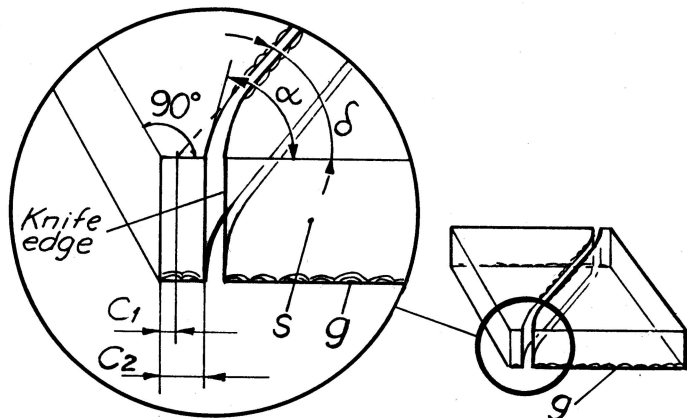

Fig. 2
If the edges become misshaped, it is recommended to reduce the scoring pressure and/or  $c_2$ , see fig. 2.
<ul style="list-style-type: none"> <li>e) At 35° knives: Distance (c2), see fig. 2, is too large.</li> <li>f) Scoring pressure is too high.</li> <li>g) Top of damping pad is protruding too much above its holder.</li> </ul>	<ul style="list-style-type: none"> <li>d) Check width of glass (min. 24.8 mm). If in order, set front glass holder (22) half a division lower e.g., from 10.5 to 10.</li> <li>e) Reduce (c2). See section II. C., steps 15 and 16.</li> <li>f) Reduce scoring pressure.</li> <li>g) Push down pad until top is in level with surface of holder.</li> </ul>